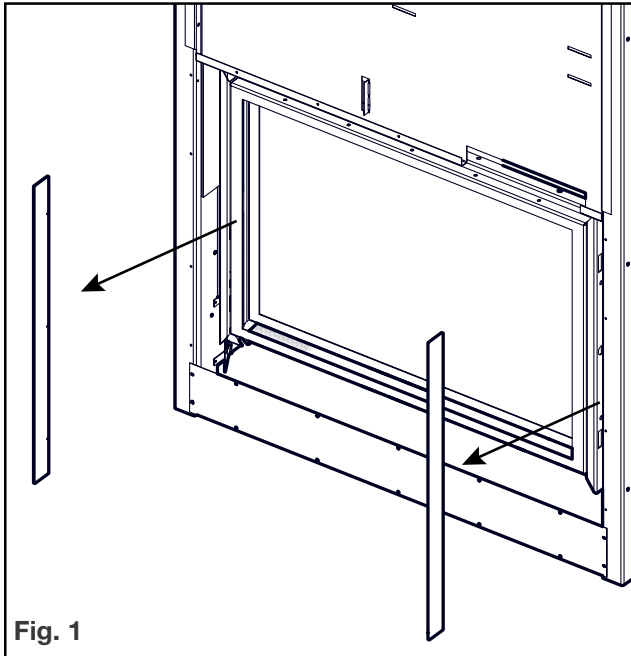

Fig. 1
1. Remove the rail covers (**Fig. 1**) by sliding them forwards.